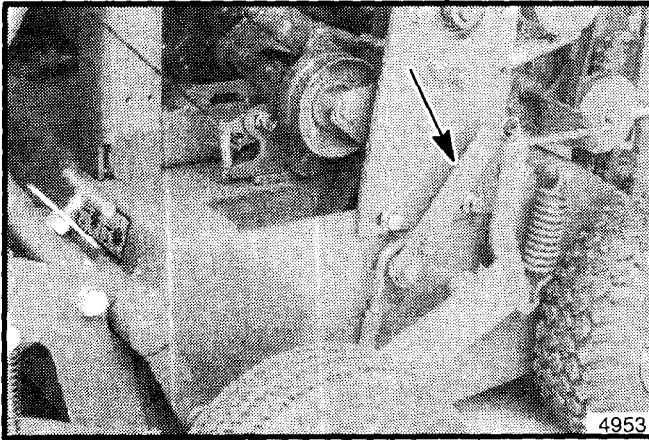

Figure 14. Reel Clamp Lever
3. Release the reel clamps (see figure 14) on both sides of the unit by pulling the clamp levers back.